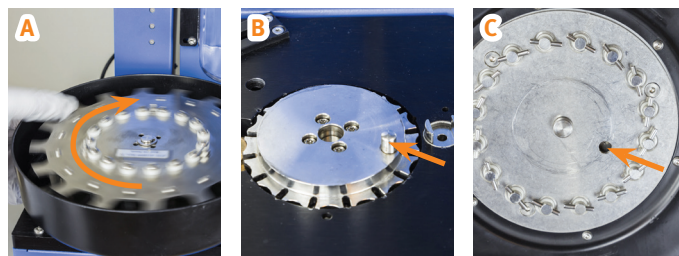

Figure 14. Rotate the vial holders (A) until the driving wheel peg (B) slides into the hole on the bottom of the carousel sample holder (C).
2. If the carousel sample holder does not fall into place, rotate the vial holders until the driving wheel peg on the carousel carriage slides into the hole on the bottom of the sample holder. See Figure 14.